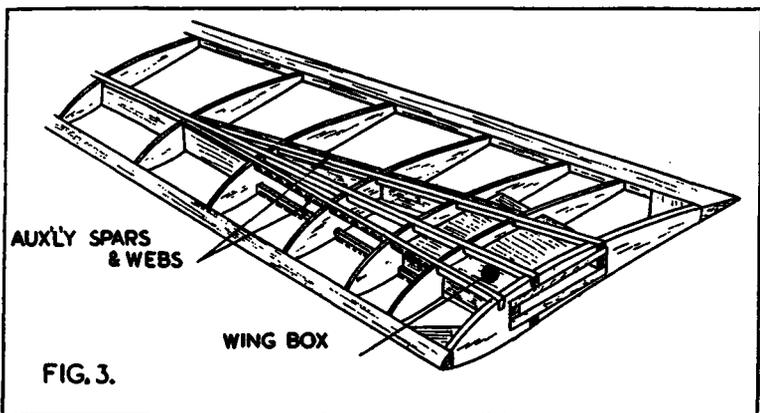

FIG. 3.
- (iii) The same localisation of stress will occur—this time at the end of the box. A similar method of triangulation is advised—like that shown in Fig. 3.